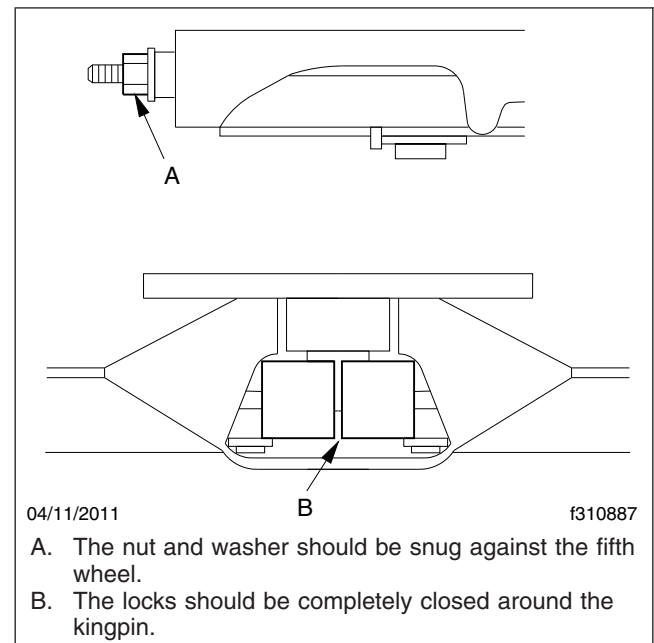

Fig. 4, Holland Fifth Wheel Properly Closed
3. Using a Holland Kingpin Lock Tester, part number TF-TLN-1000 or TF-TLN-5000, check the operation of the locking mechanism by opening and closing the locks. See **Fig. 4**.